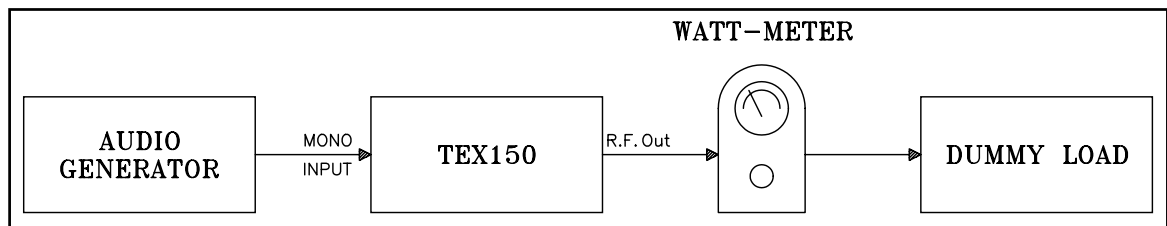
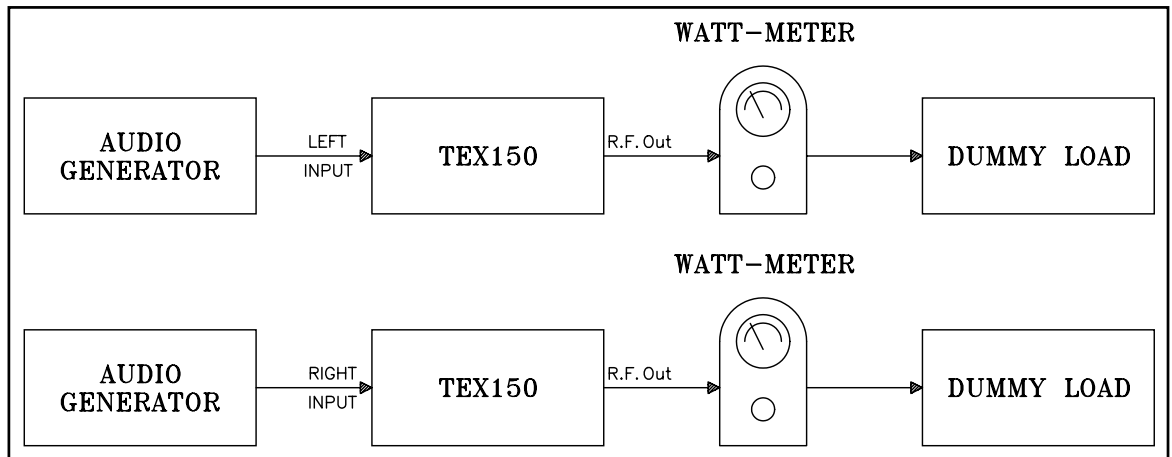

figure 10.2
figure 10.3
- Inject a 400 Hz, 0dBm pilot tone into the Left (or Right) input. (see fig. 10.3 for Stereo Version, or see fig. 10.2 for Mono Version).